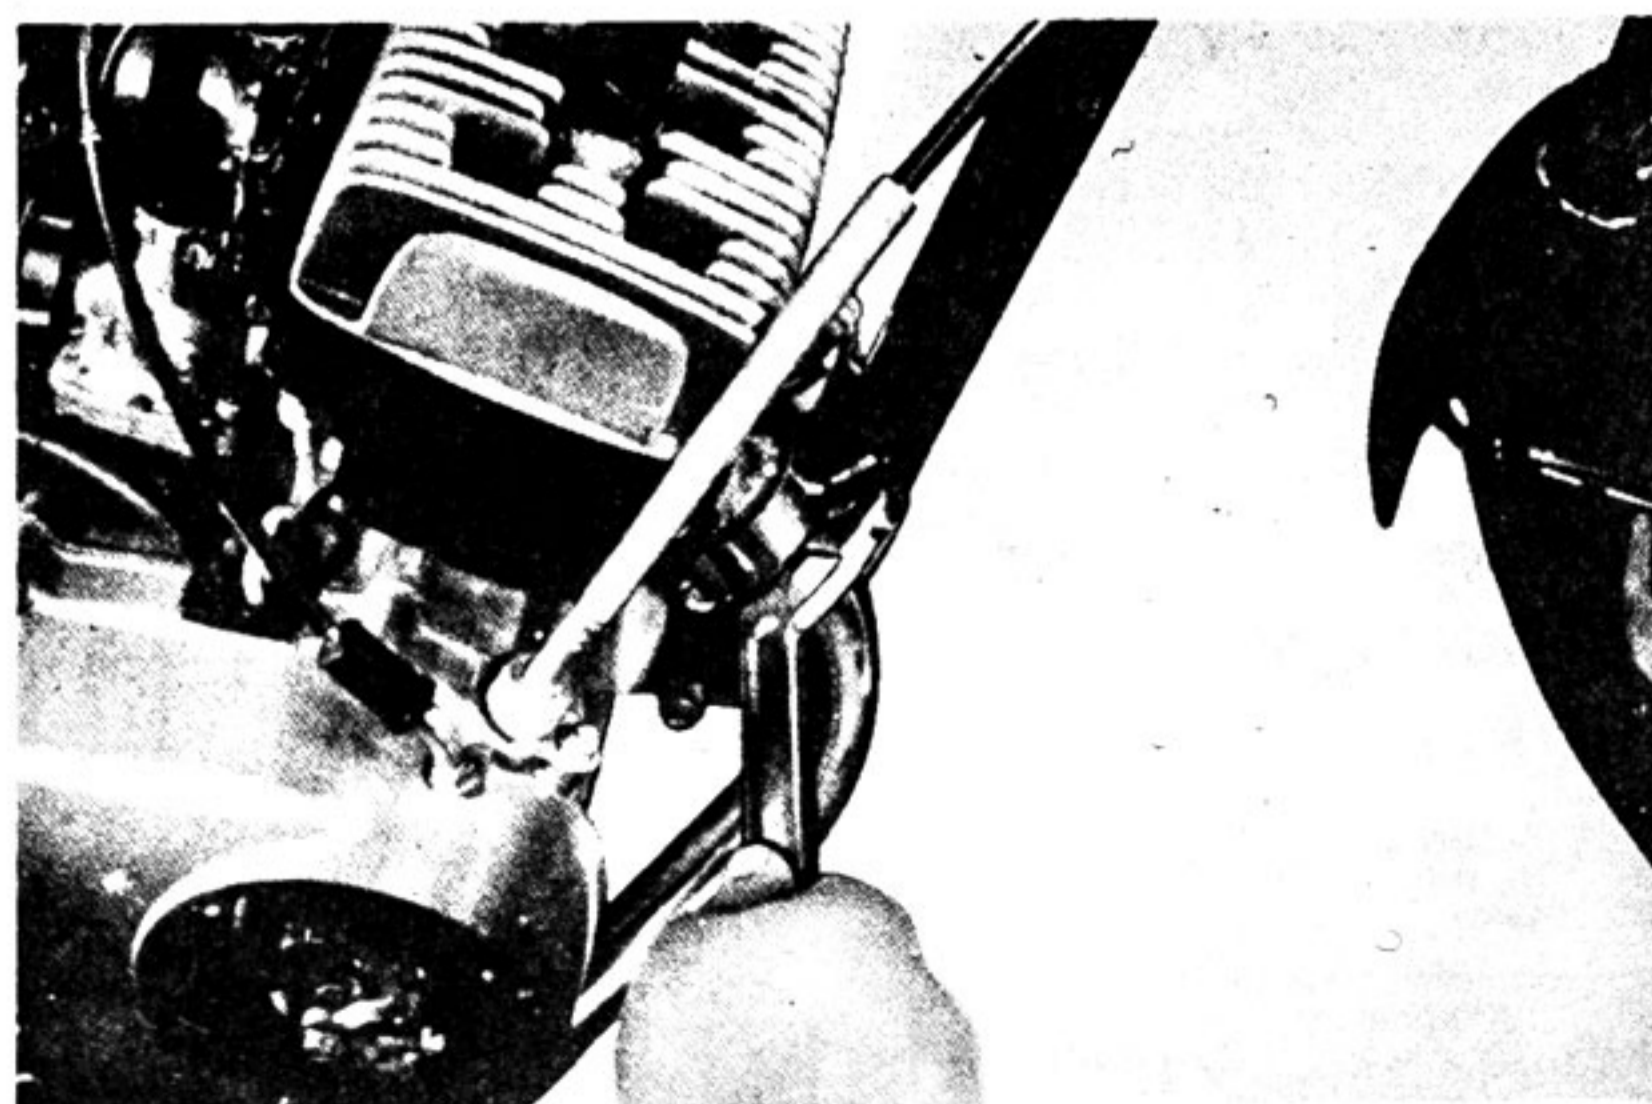

Fig. 4-1-3
2. Remove the mufflers and exhaust pipes. (Fig. 4-1-3)